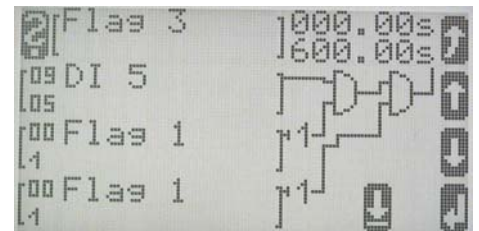

Figure 3-9
2. Remove the "0" for DI5 in flag 3 (configure logic manager->Flag 3 V1.0017; configure logic manager->internal flags->Flag 3 V1.0100) change the alarm class for DI5 (or any other DI that is configured here) to control. Flag 3 has a default OFF-delay time of 600s, this means a postrun of 10min after the DI is "0" again. (Figure 3-9) Any other requested time could be entered here.